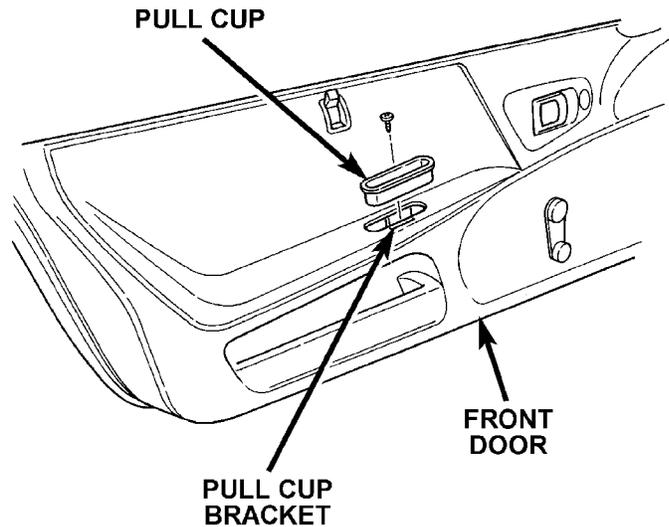
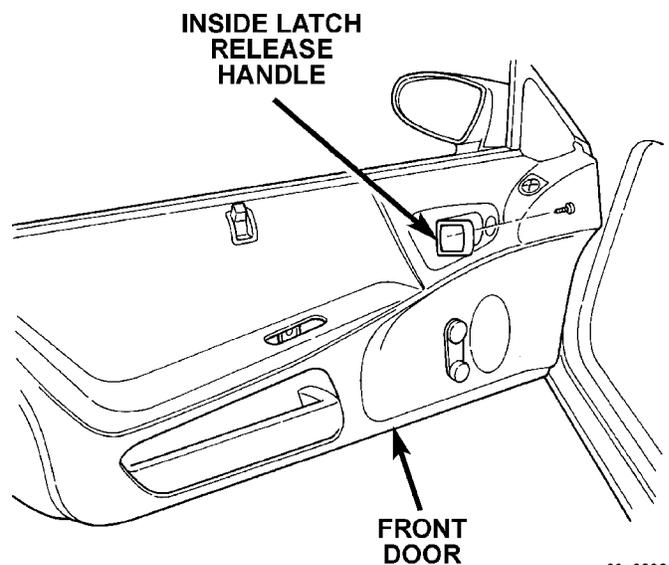
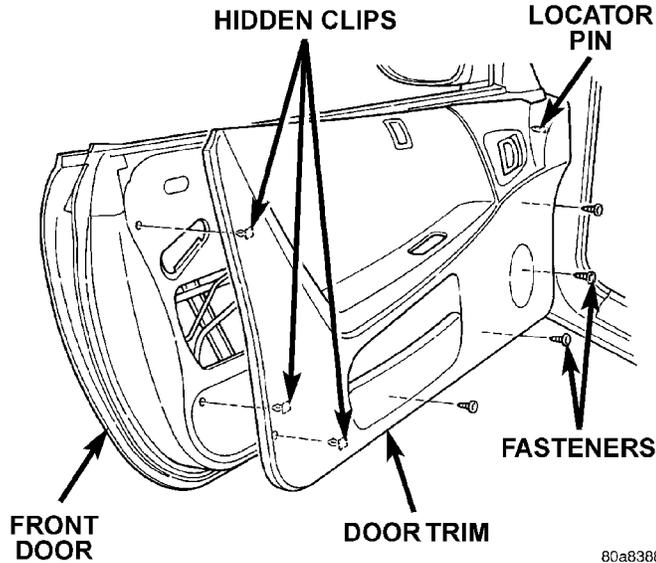

Fig. 5 Front Door Pull Cup
Fig. 6 Inside Door Handle Screw
Fig. 7 Door Trim Panel
- (1) Release door latch and open door.
- (2) Lower door glass.
- (3) Remove screw inside pull cup holding door trim panel to bracket (Fig. 5).
- (4) Pull and hold inside latch release handle away from door trim.
- (5) Remove screw holding trim panel to door from behind inside door handle (Fig. 6).
- (6) Remove window regulator crank, if so equipped.
- (7) Disengage hidden clips holding trim panel to door from around perimeter of trim panel (Fig. 7).
- (8) Tilt trim panel outward to clear locator pins on backside of trim panel.
- (9) Disengage trim panel from retainer channel on inner belt weatherstrip at the top of the door by lifting and gently jiggling.
- (10) Move trim panel away from door and disengage clip holding door latch linkage to back of inside door handle.
- (11) Separate latch rod from handle.